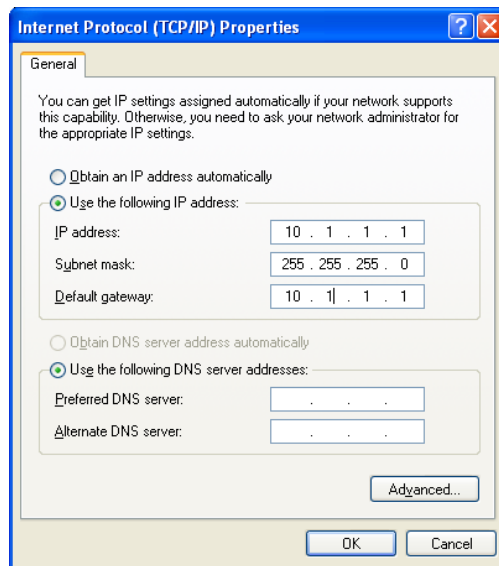

Figure 6. The Internet Protocol (TCP/IP) Properties dialog box.
5. Now the "Internet Protocol (TCP/IP) Properties" dialog should be displayed. Select "Use the following IP address:". Enter "10.1.1.1" in the IP address box, "255.255.255.0" in the subnet mask box, and "10.1.1.1" in the default gateway box. The dialog should now look like that of Figure 6. Click "OK".